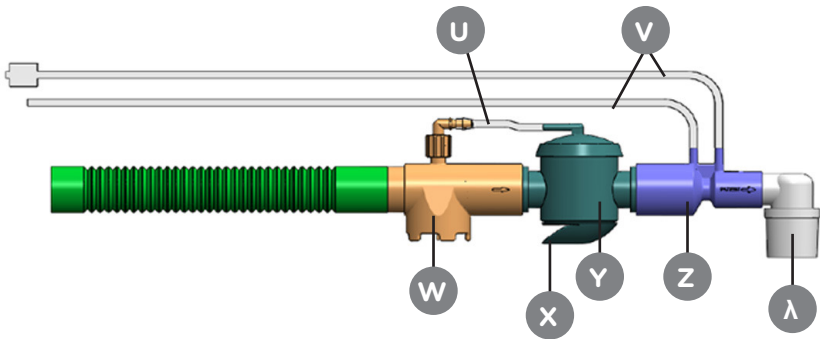

Figure 03
1. Attach the O-Two patient circuit (Figure 03) to the 22mm gas output connector (S) (Figure 02).
2. Connect the sensing hoses (V) (Figure 03) of the patient circuit to their corresponding connectors (Q) & (R) (Figure 02).